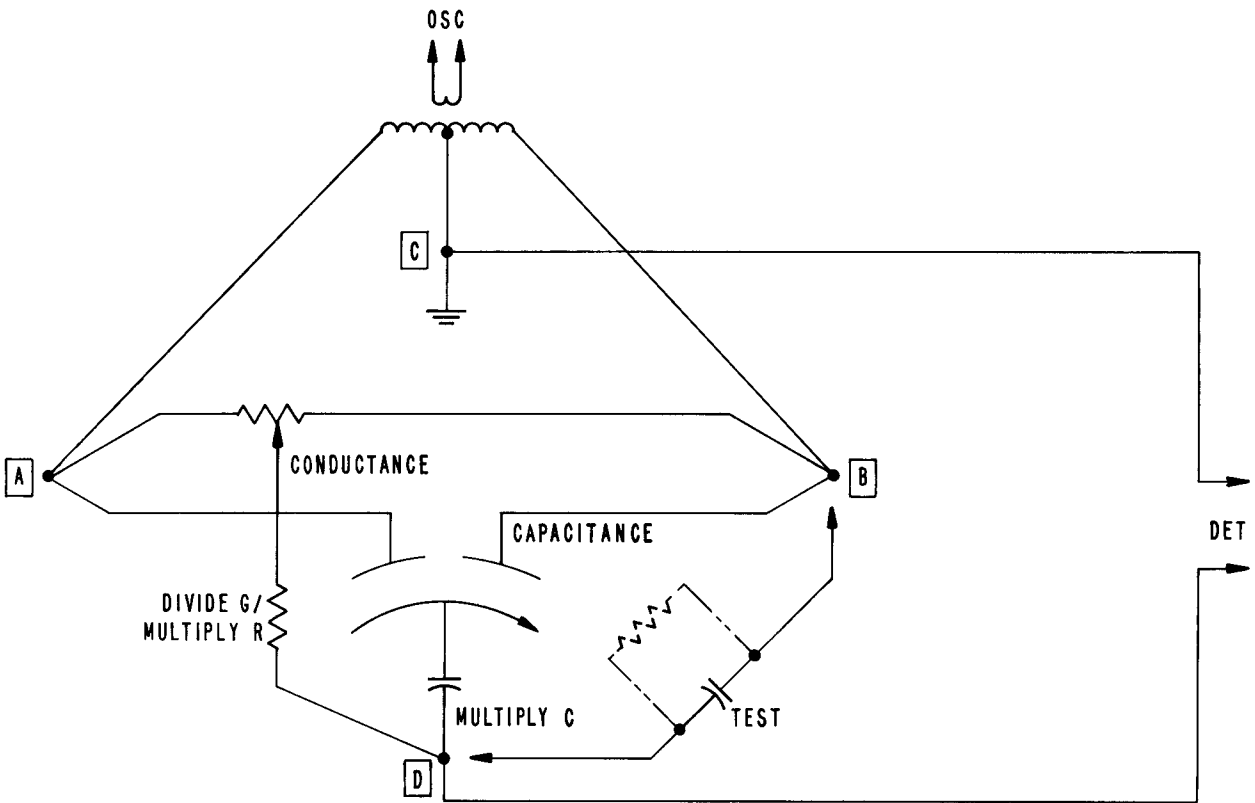

Figure 2. Basic Bridge Configuration
1.5.2 Bridge. The bridge network used in the 75D is a modified Young circuit. Figure 2 shows the basic configuration of the bridge in simplified form.
Referring to Figure 2, the two LO posts (A and B) are the signal-injection corners of the bridge, and the HI post (D) and ground (C) are the detection corners. When the bridge is balanced for capacitance and conductance (C and G), the impedances appearing between each of the LO posts and the HI post are equal. The voltages that are summed at the HI post are equal and opposite in phase; under this condition, the net voltage developed at the detector corner is zero and the null indicator will show a balance.
1.5.3 Amplifier/Detector. Although Figure 2 indicates just a detector, the 75D is actually fitted with two detectors. When both capacitance and conductance